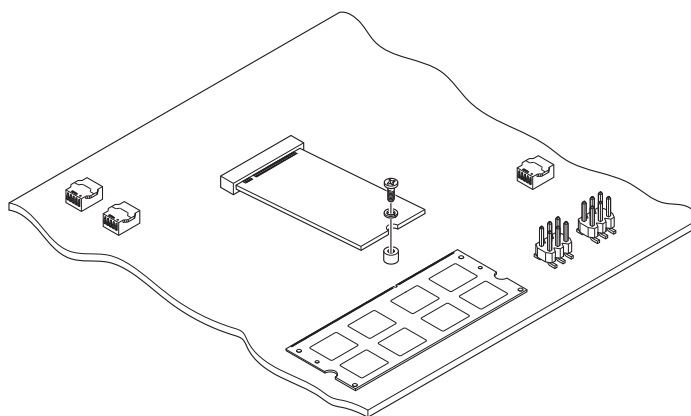

Figure 5-4 M.2 drive removal
1. Remove the screw and washer holding the M.2 drive in place (see Figure 5-4). The card will lift off the board slightly.
2. Remove the screw and washer holding the M.2 drive in place (see Figure 5-4). The card will lift off the board slightly.